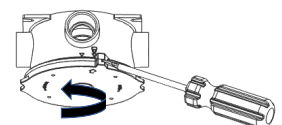

Figure 4 - Pry cover counter-clockwise to unlock
1. Remove cover from the Q-Hub by placing a screwdriver into the slot of the locking mechanism and prying the cover counter-clockwise until released from the lock. Figure 4